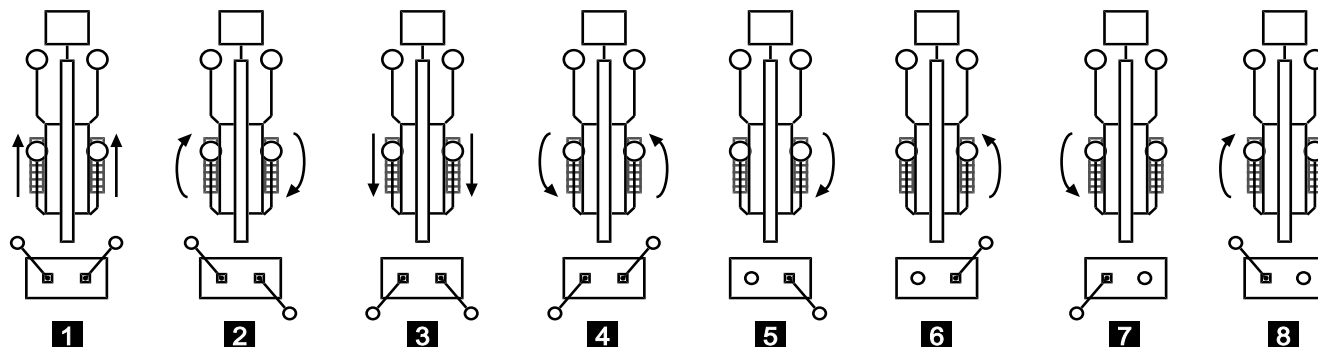

Fig. 103
- Observe the machine's maximum tilt angle (Fig.103).